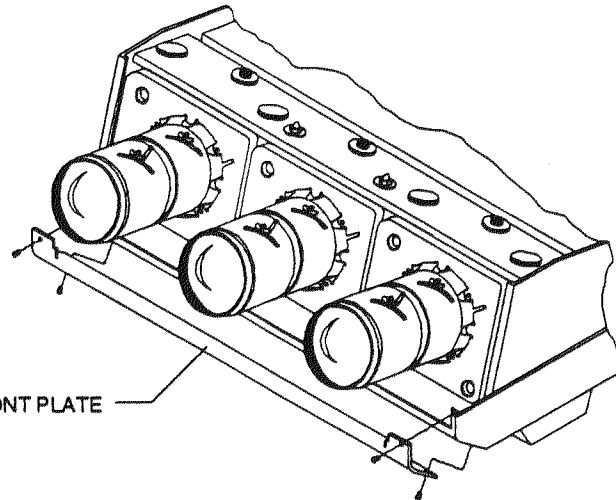

FIGURE 10-36. AMPRO 4300 front plate removal.
- STEP 3. On the front of the 4300, remove the four (4) each phillips screws securing the front plate to the chassis. See Figure 10-36